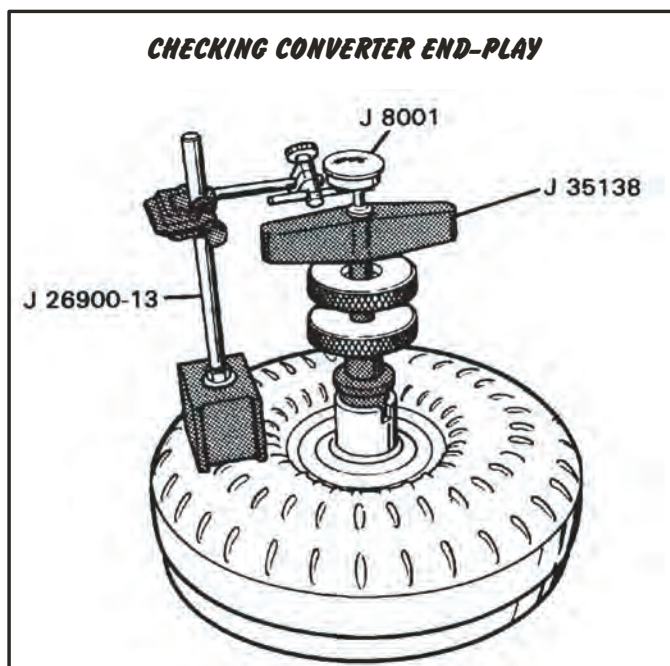

Figure 131
79. Check the torque converter end-play using the tools shown in Figure 131. Converter end-play should be .010" - .035".